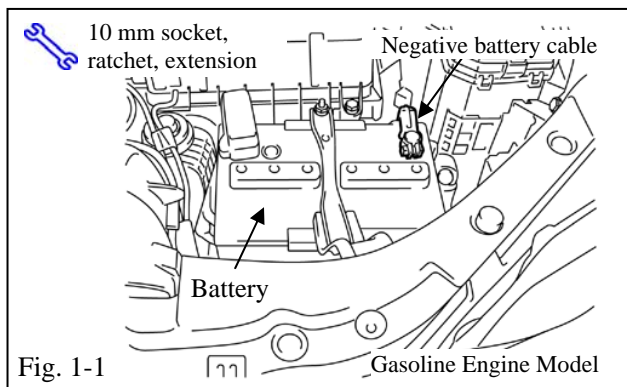

Fig. 1-1
- (b) On the gasoline engine model, disconnect the negative battery cable of the battery installed on the left side of the engine compartment. (Fig. 1-1)